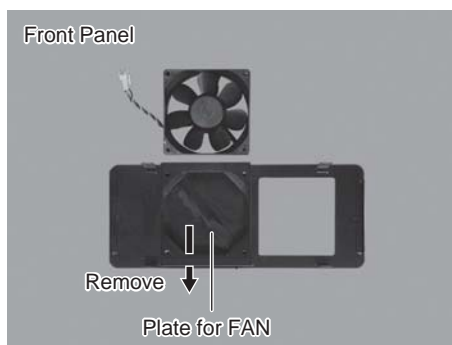

Fig. 42
- (7) Remove the FAN from the Case (Front Panel) of the CONTROLLER (Fig. 42).
- (8) Remove the Plate for FAN from the Case (Front Panel). Clean the Case (Front panel) and Plate with a lint-free cloth (Fig. 42).